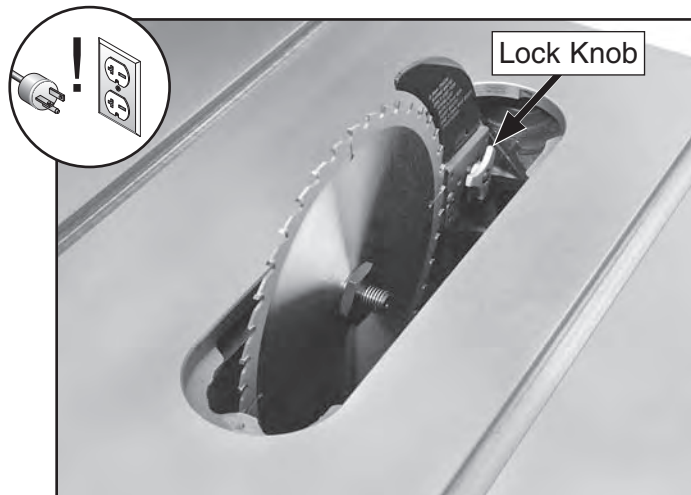

Figure 127. Lock knob location.
4. Tighten the lock knob (see **Figure 127**), then re-install the table insert.